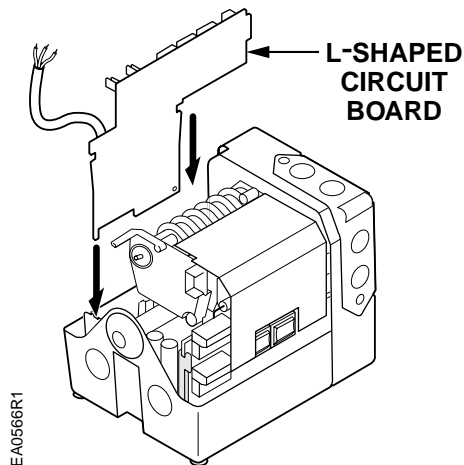

Figure 27.
9. Gently guide the L-shaped circuit board containing the three blue trim potentiometers into the vertical support slots located on the cam drum side of the actuator. See *Figure 27*.